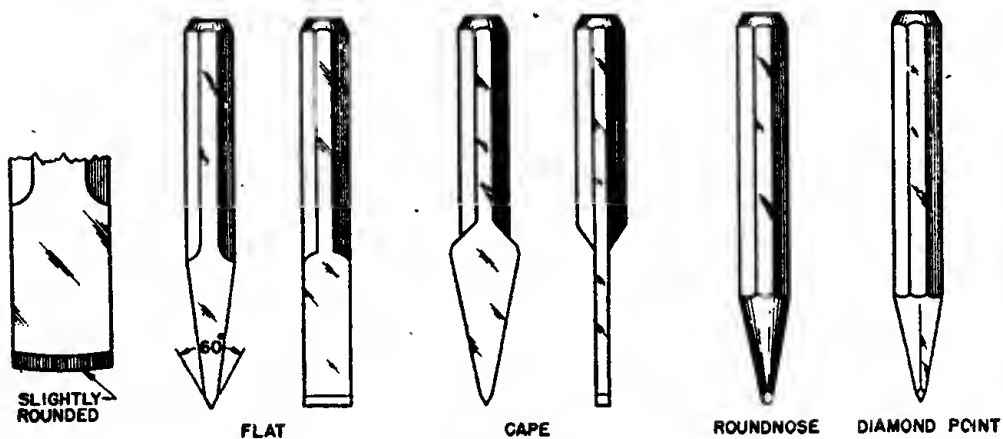

Figure 110. Cold chisels.
b. **COLD CHISELS.** (1) The cold chisel derives its name from the fact that it can be used to cut metal without first heating the metal to soften it. The chisel is usually made of carbon steel. After being shaped correctly, the end of the blade is hardened by heating and quenching. The blades are made in a variety of shapes, each best suited for a specific type of work.
(2) The four most common types of cold chisels are the flat, cape, roundnose, and diamond-point. (See fig. 110.)